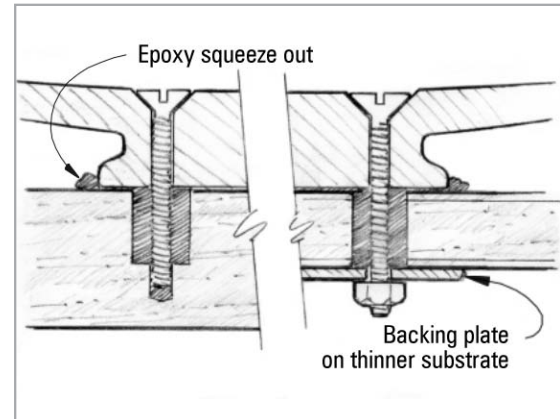

Figure 6-2 Tighten the fasteners until a small amount of epoxy squeezes from the joint.
7. Place the hardware in position. Insert and tighten fasteners until a small amount of the mixture squeezes out of the joint (*Figure 6-2*). Do not over tighten.